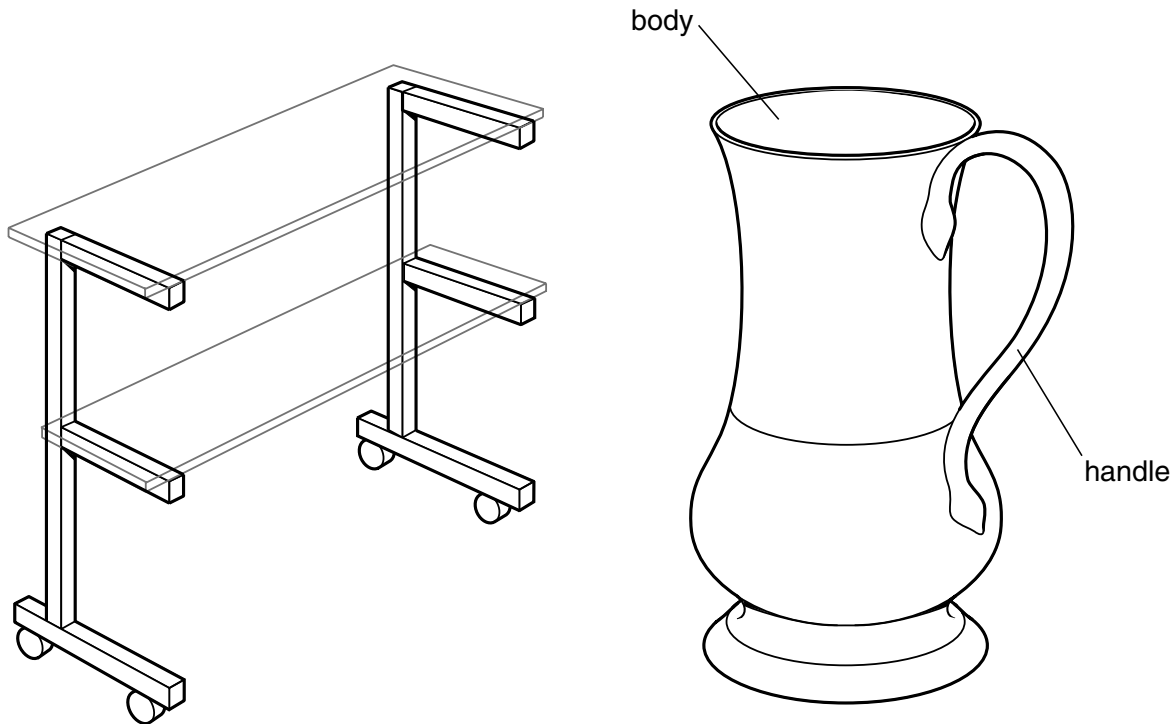

Fig. 5
- 11 Fig. 5 shows a computer trolley with a square tubular steel frame and a tankard made from brass. Both examples use thermal joining techniques in their manufacture.